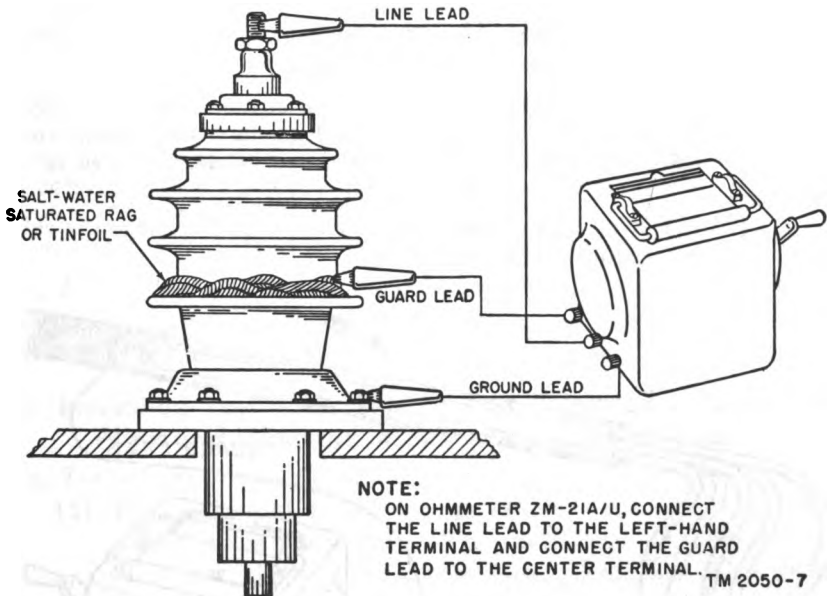

Figure 11. Connections for testing insulating bushings.
a. To obtain a true resistance value of the insulation under test, both the insulation and the measuring instrument must be protected against surface leakage to eliminate possible errors. Both Test Set I-48-B and Ohmmeter ZM-21A/U have an internal protective or guard system for this purpose. The guard system is connected to the GUARD terminal so that protection against surface leakage can be extended to the insulation under test. For example, figure 11 shows a porcelain insulator bushing under test with the guard connection of the ohmmeter in use. Any leakage current between the base of the insulator and its terminal will be carried back to the test set through the GUARD terminal, and the internal guard circuit of the test set will prevent this leakage from entering the measuring circuit.
a. Connect a test lead from the GROUND terminal of the ohmmeter to the base of the bushing (fig. 11).